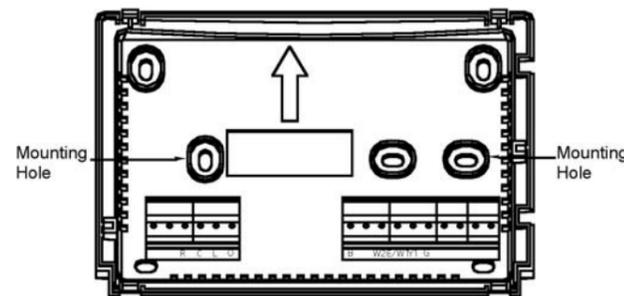

Figure 2. Thermostat Base
2. Connect wires beneath terminal screws on base using appropriate wiring schematic (see Figure 2 through 6).